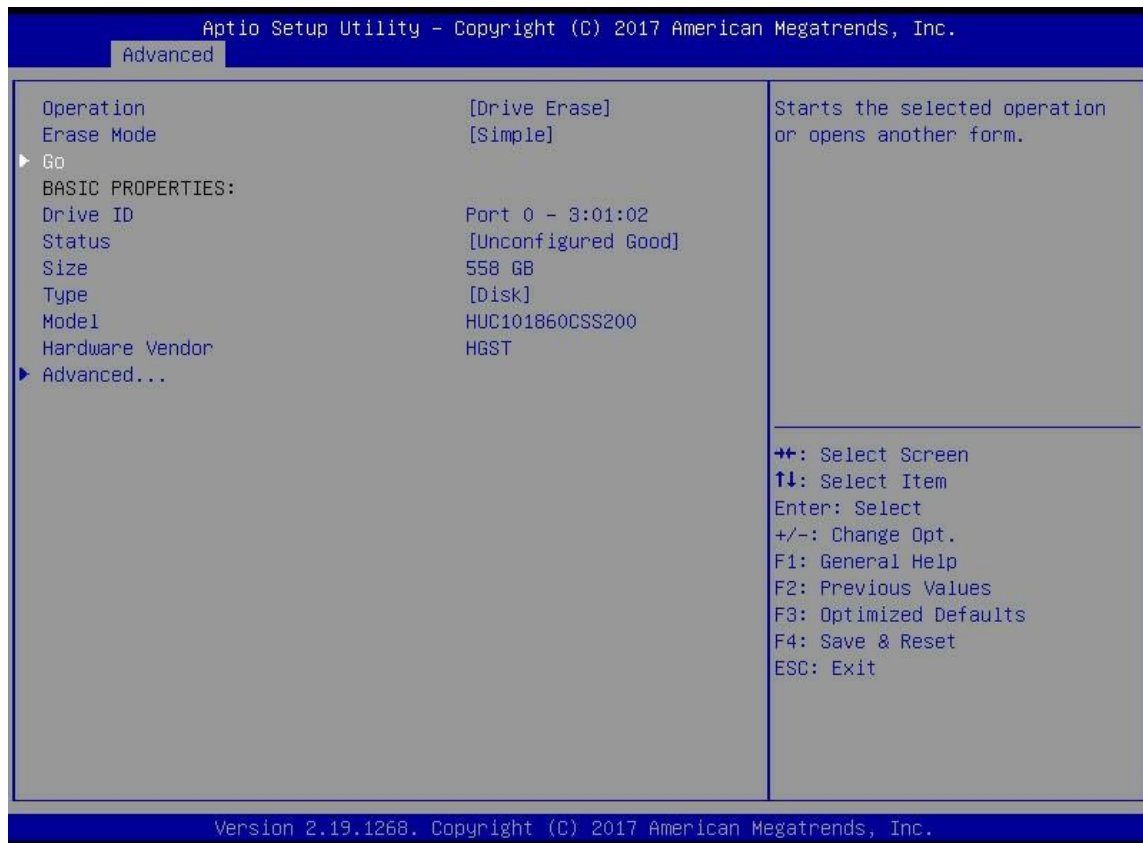

Figure 6-57
e) Enter the interface shown in figure 6-57, select go and press enter.